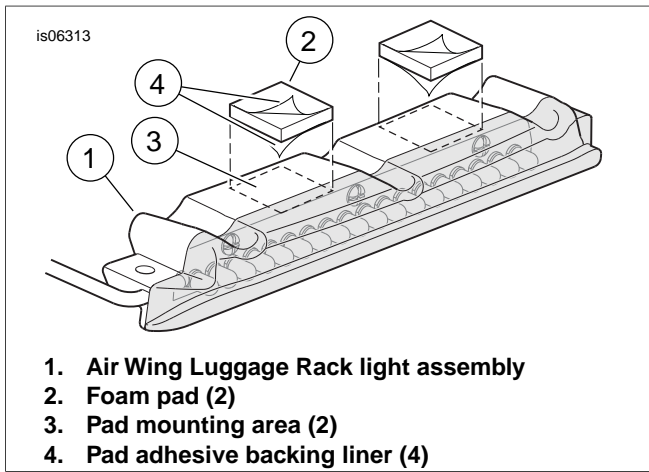

Figure 1. Attach Foam Pads to Light
See Figure 1. Ambient temperature should be **at least 60 °F (16 °C)** for proper adhesion of the foam adhesive pads (2) to the rack and light.
7. Clean the foam pad mounting areas (E) on the underside of the rack rear crossbar and (see Figure 1) on the light (3) with a mixture of 50-70% isopropyl alcohol and 30-50% distilled water. Allow to dry thoroughly.
8. See Figure 1. Remove the liner (4) from the adhesive backing on **one side** of a pad (2). Carefully position the pad to the top surface of the light (1), between the clearance notches, and press firmly into place. Repeat with the second pad.
9. Remove the remaining liner from both pads, and install the light to the rear cross bar with two socket head screws (3) and flat washers (4), drawing the wiring out the forward hole (C) as the light is set in place. Tighten the screws securely.